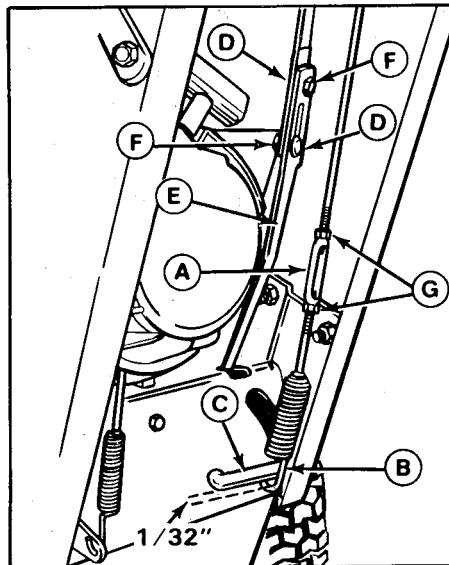

Figure 14. Auger Drive Linkage
With the drive lever released, the hook (B, figure 14) should barely touch the lever (C) without raising it. (There can be a maximum of 1/32" clearance as shown.) To adjust, loosen the two nuts (G). Hold the lower rod to keep from turning and turn the turnbuckle toward the right to lower the spring or toward left to raise the spring. When correct, tighten the two nuts against the turnbuckle.
1. Loosen the two nuts (F, figure 14).
2. Place the shift lever in 5th gear. The lower link (E) will properly locate itself due to an internal spring.